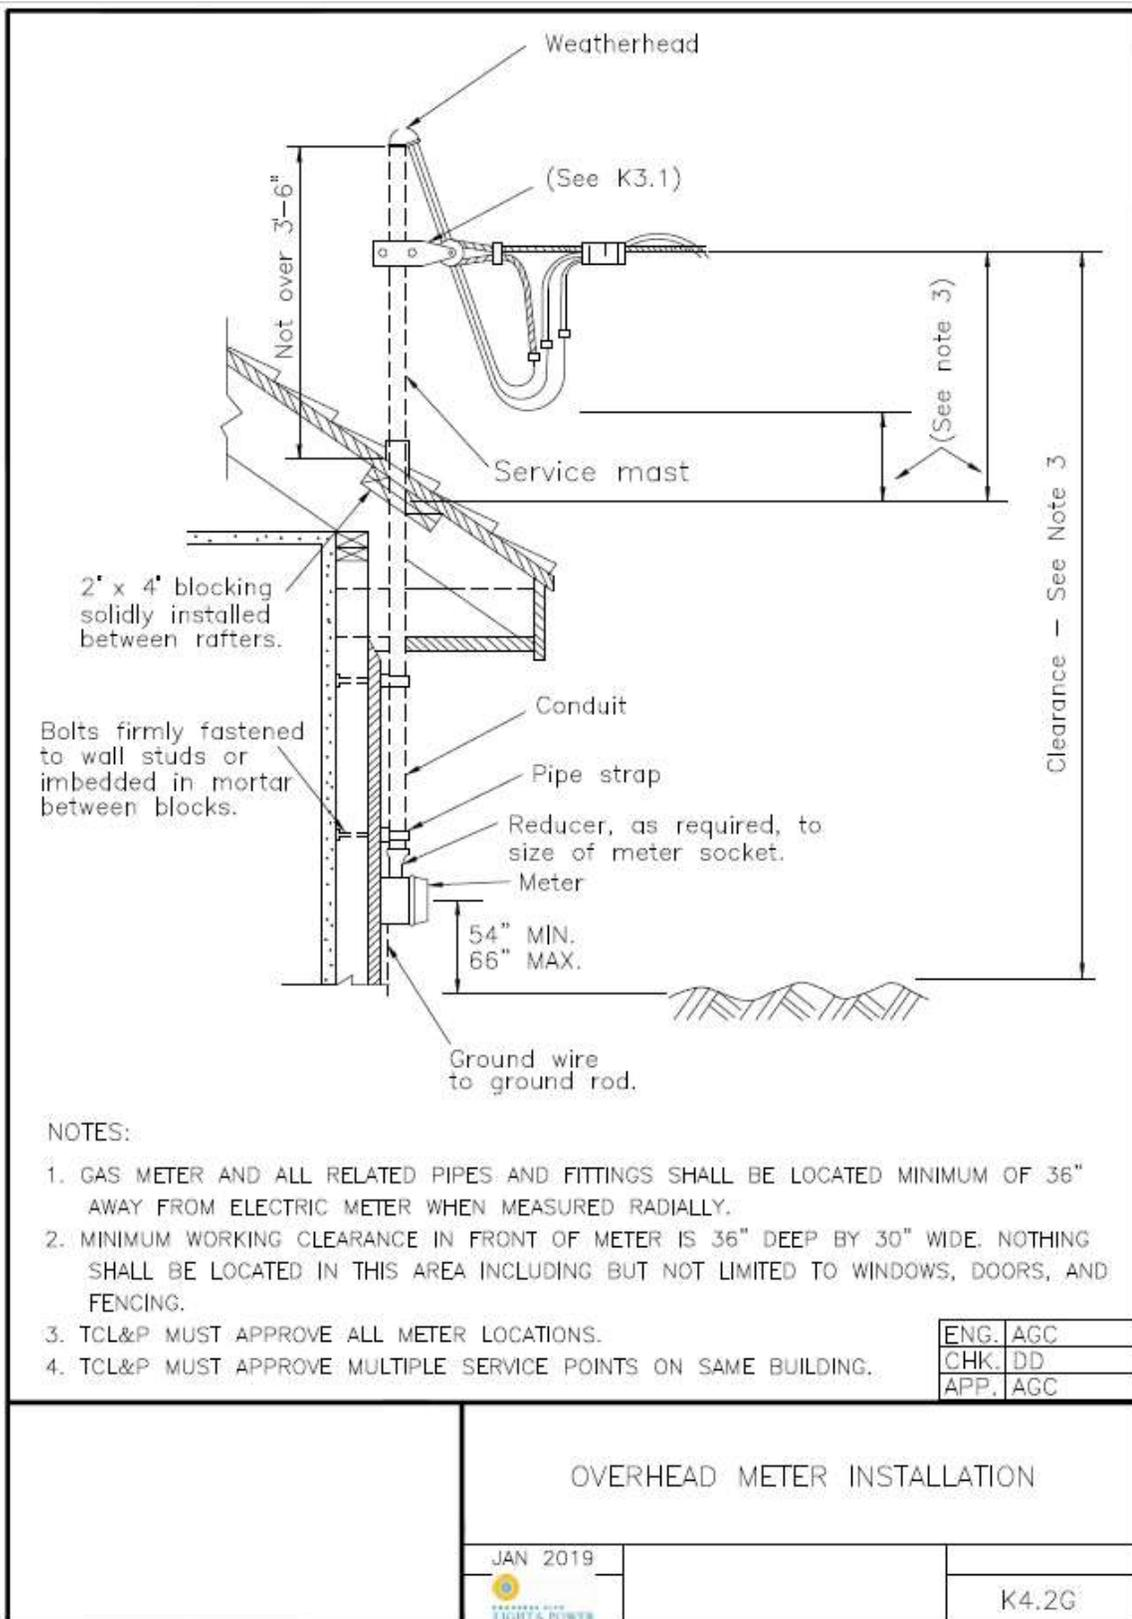

Figure 8.1 – Overhead Meter Installation
- e. Refer to Figure 8.1 for more detail.